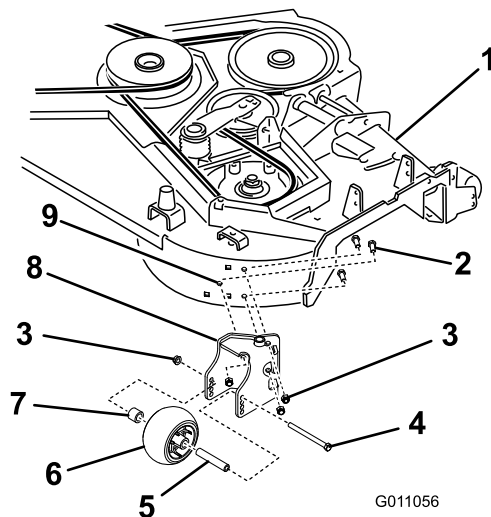

Figure 6
5. Install the new blower pivot with 3 bolts (3/8 x 1 inch) and 3 locknuts (3/8 inch) using the drilled holes (Figure 6).
6. Install the anti-scalp roller to the blower pivot with the previously remove axle bolt (3/8 x 4-1/2 inches), spacer, bushing, and flange nut (3/8 inch) (Figure 6).